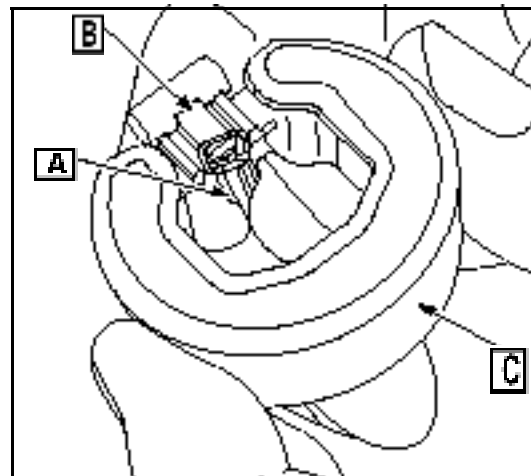

Fig. 45
16. Slide fuel needle valve assembly (A) on tab (B) of float ([C] Fig. 45).